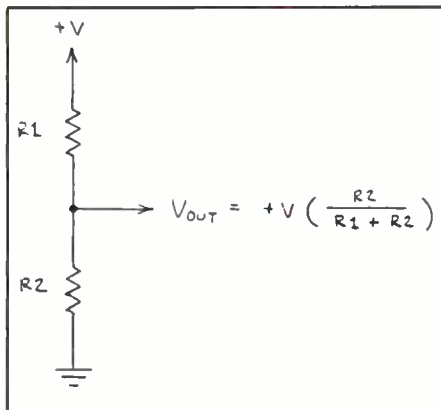

Fig. 8. The schematic of the basic voltage-divider network.
• **The Voltage Divider.** Thermistors can easily be used in resistor networks like voltage dividers and bridges. As shown in Fig. 8, a voltage divider consists of two resistors connected in series with each